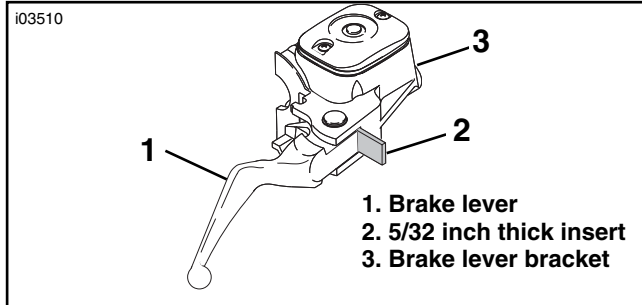

Figure 2. Install Cardboard Insert
5. See Figure 2. Squeeze the brake lever and place the insert between the brake lever and lever bracket.